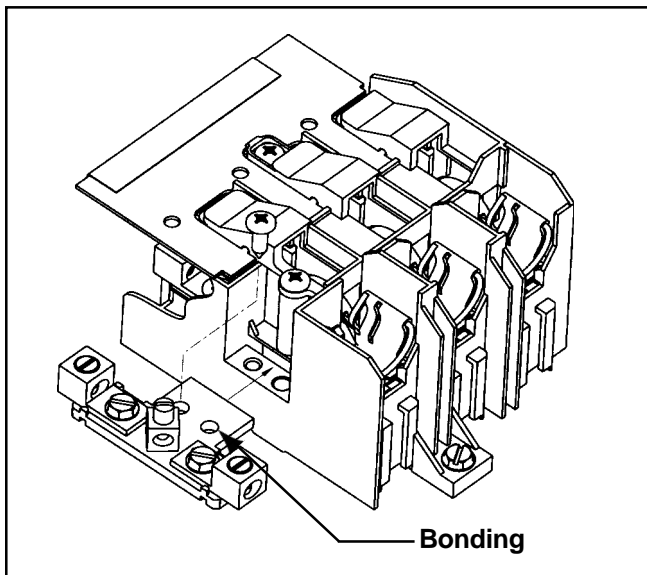

Fig. 1
3. Slide Neutral into left side of Line Base as shown in Fig. 1.